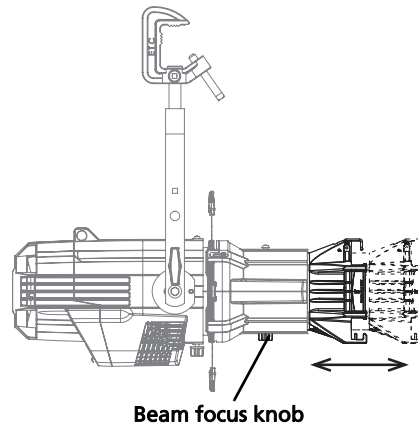

Figure-2.4 Focusing the beam
1. Loosen the beam focus knob located under the barrel as shown in Figure-2.4.